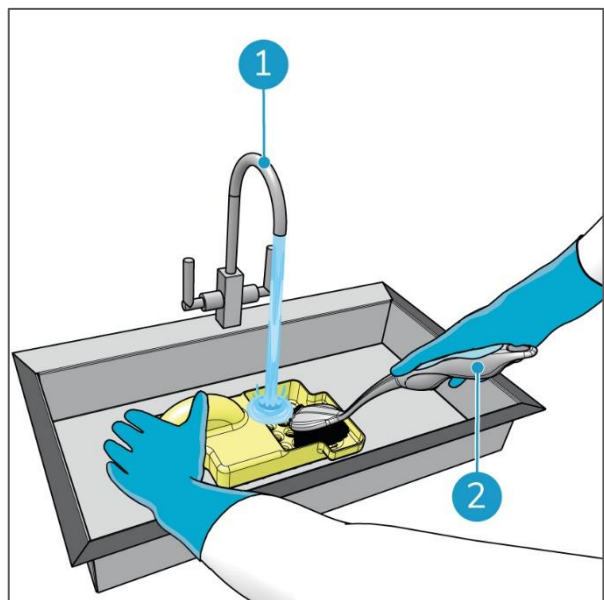

Figure 51
2. Remove the debris by hand and clean it with tap water and a brush (Figure 51, pos 2) above a sink.
3. Rinse it with tap water (Figure 51, pos 1).